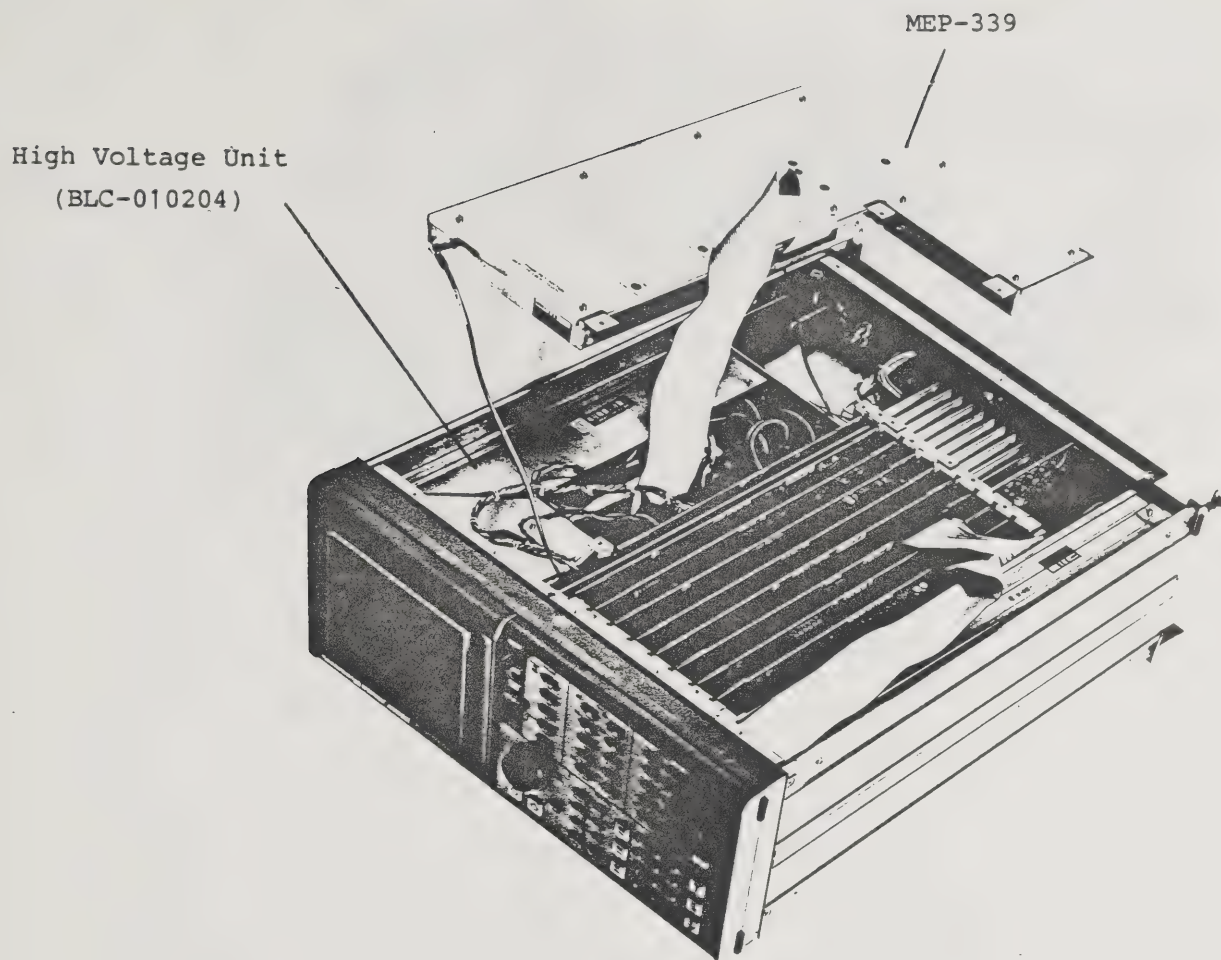

Fig. 11-3 Removing the phase block (MEP-339)
- (1) Set the POWER switch to STANDBY.
- (2) Remove phase block (MEP-339) from the instrument. (See Figure 11-3.)